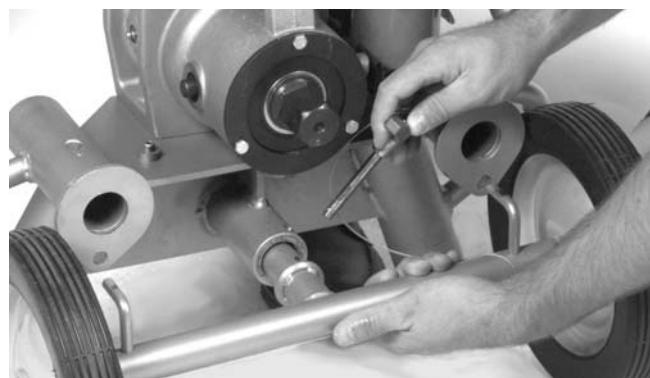

Figure 24 – Mounting the Groover to the No. 32 Transport Cart
1. To attach the transport cart to the groover, insert the cart into the socket located at the bottom of the base (Figure 24). Make sure the two alignment lugs on the cart are also inserted in the base.